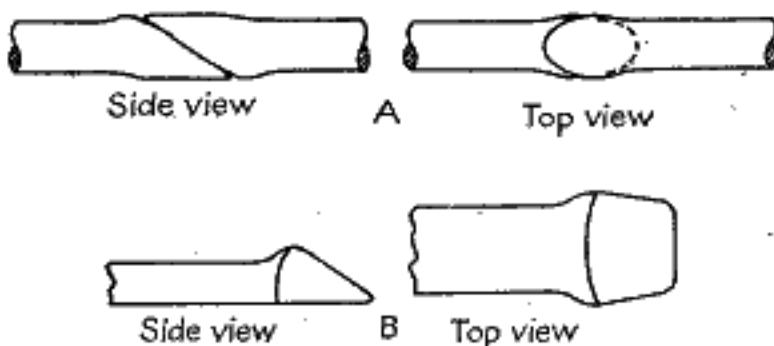

FIG. 273.—A. Round rods upset, scarfed, and in position for welding. B. Flat bar upset and scarfed for welding.
**315. Welding Rods or Bars.**—To weld rods or bars, it is best to upset the ends somewhat before scarfing. The scarfs should be short and thick and with rounded convex surfaces (see Fig. 273). The irons are fluxed and brought up to the welding heat in the usual manner. When they reach the welding heat, they are removed from the fire, struck quickly over the edge of the anvil to shake off any slag or impurities, put in place on the anvil and hammered together first on one side and then the other with